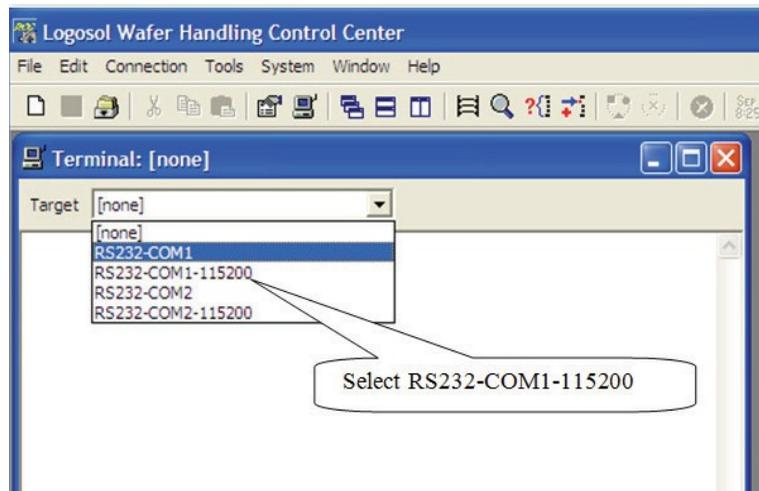

FIGURE 6-2: Connecting to the Robot via the Terminal
5. In the Terminal window, select RS232-COM1-115200 to establish communication with the Robot. See Figure 6-2.